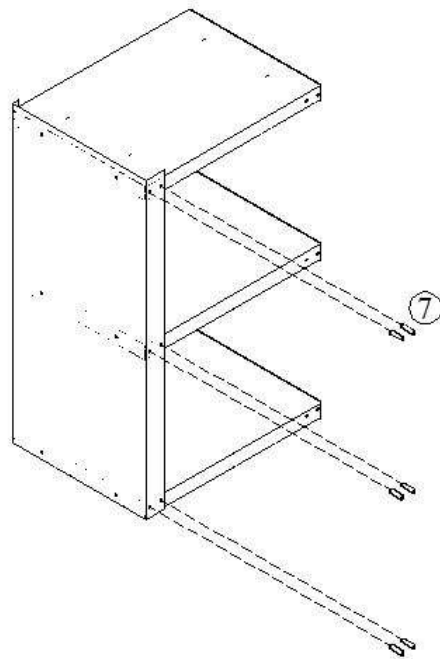

Figure 2
Attach another 6 of the sheet metal screws (7) for front portion of left side panel (4). As shown in Figure 2